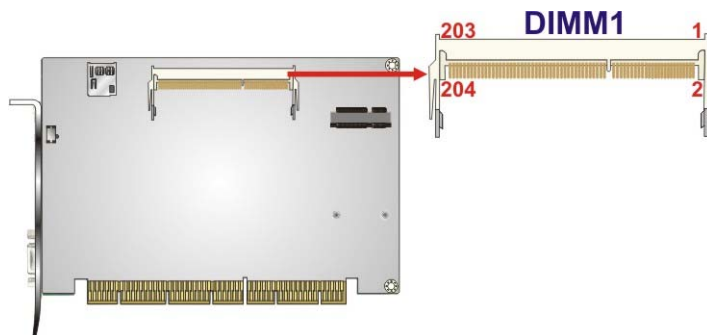

Figure 3-26: SO-DIMM Slot Location
- CN Location:** See **Figure 3-26**